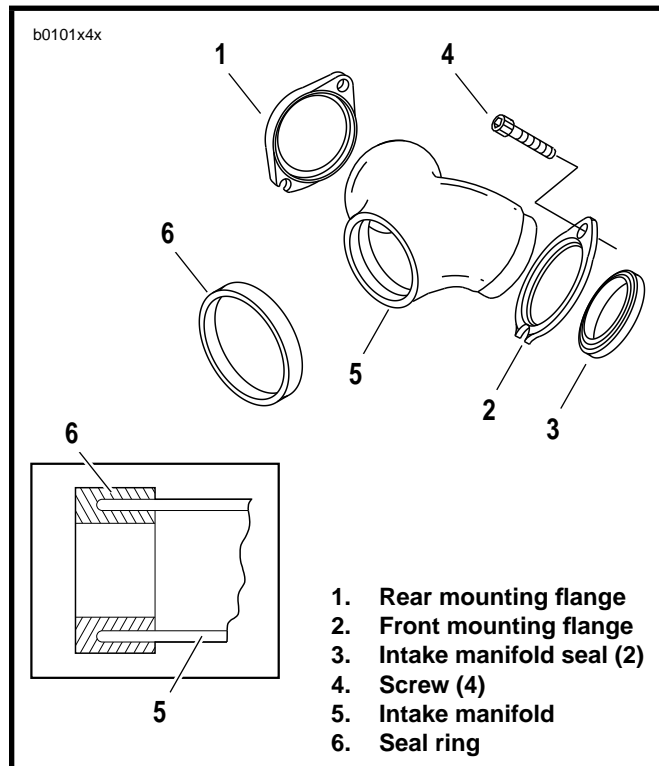

Figure 4-13. Intake Manifold
4. See Figure 4-13. Loosen two intake manifold screws (4) on primary side of engine. Do not remove.
5. Remove two manifold mounting screws (4) on gearcase side of engine.
6. Remove intake manifold (5) and seal ring (6). Slide both mounting flanges (1, 2) over primary side screws (4). Remove intake manifold seals (3).